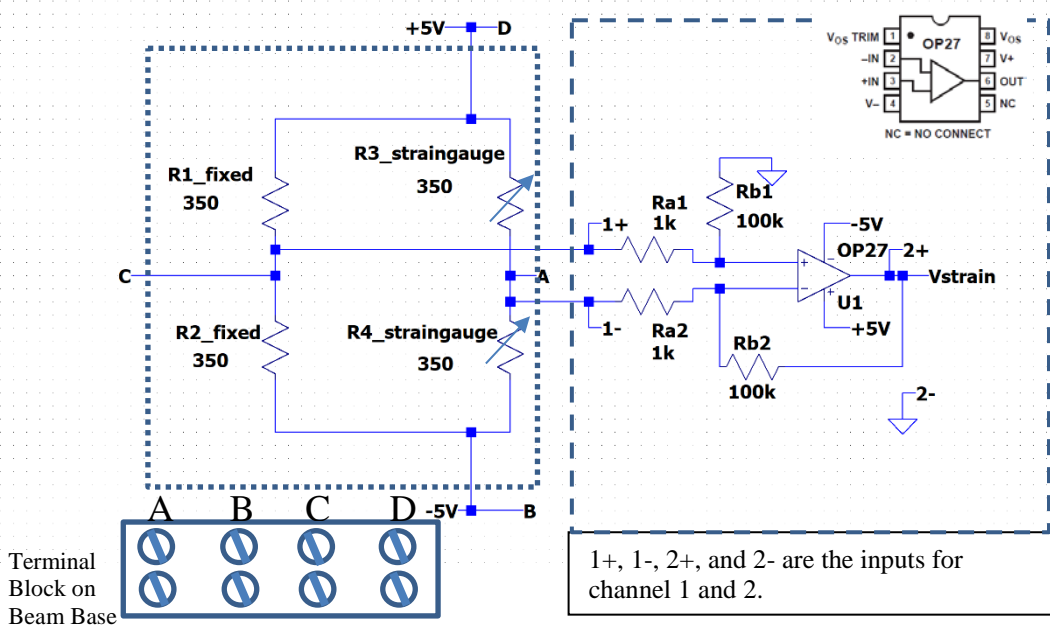

Figure B-4. Dotted line shows components on the beam. Dash line shows what is on the breadboard.
- B.2 Wire the circuit shown in Figure B-4, using the OP27 op amp.
- **If the voltage increases when you push the beam down, swap the two wires connected to Ra1 and Ra2 of Figure B-4. That is, swap the two inputs to the difference amplifier.**